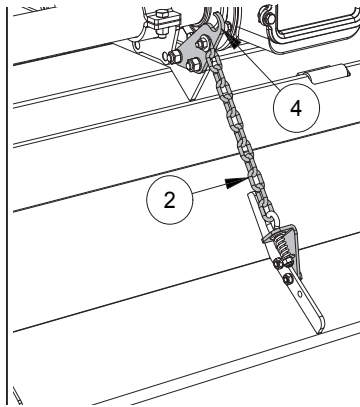

FIG. 17
To level and crumble the soil to a greater degree, the machine has a rear hood (1, "Fig. 17") positioned behind the hoes. It can be adjusted in height by means of a chain (2). It is recommended to start working with the hood in a middle position: after the first working metres, when reaching the chosen depth, secure the position of the hood by